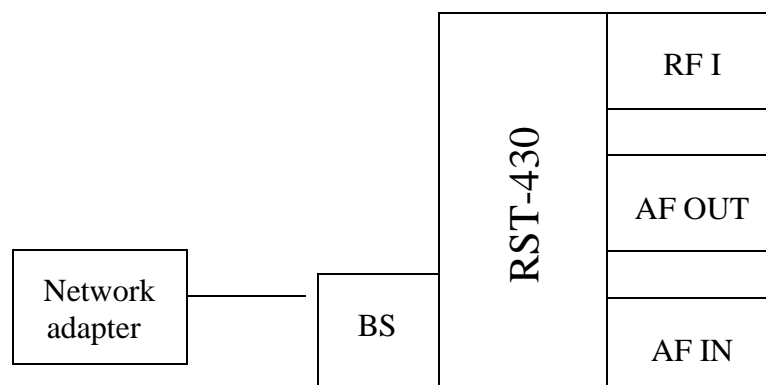

Fig.1
- 2) Connect the tester to the network adapter according to the diagram shown in figure 1.